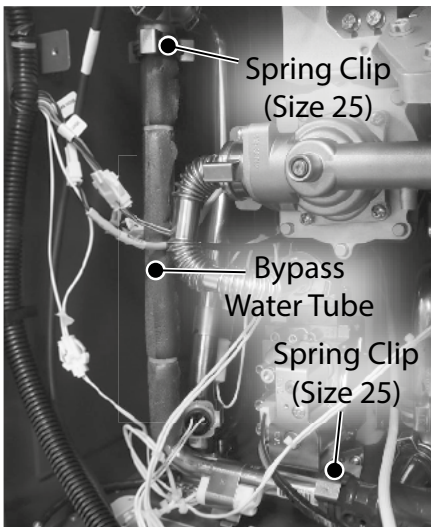

Figure 4 - Remove spring clips from bypass water tube
16 Locate the bypass water tube connected to the bypass valve. Locate and remove the two (2) spring clips (size 25) securing the tube to the bypass valve and the mixing tee as shown in Figure 4.